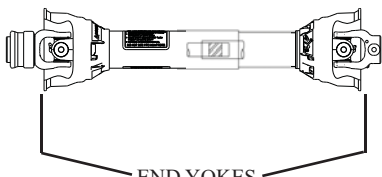

FIG. 7
STEP 11: Slide the two driveline halves apart, and pack 1/4 lb. of good grade gun grease into the open end of the driveline. Grease the grease zerk in the tractor end yoke and in the two center crosses. Slide the driveline halves back together with the end yokes in proper alignment (see FIG. 7). Failure to properly align end yokes may result in excessive vibration. Always make sure driveline guards are in place and rotate freely.